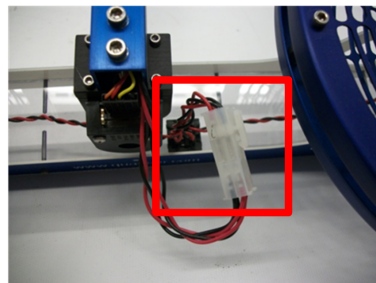

Figure 3.5: Connect the propeller command signals.
- Connect the propeller command signals from the arm to the helicopter as shown in Figure 3.5.